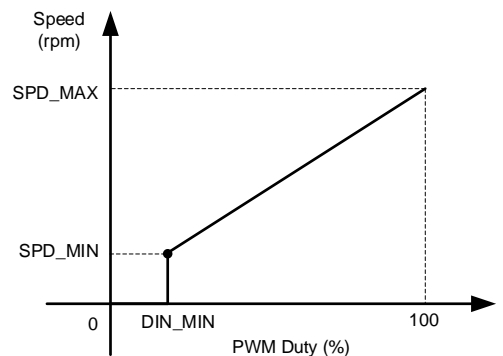

Figure 4: Speed Curve if SPD_ZERO = 1 and MAX_EN = x
3. If SPD_ZERO = 1 and MAX_EN = x, then the speed is 0rpm (see Figure 4).